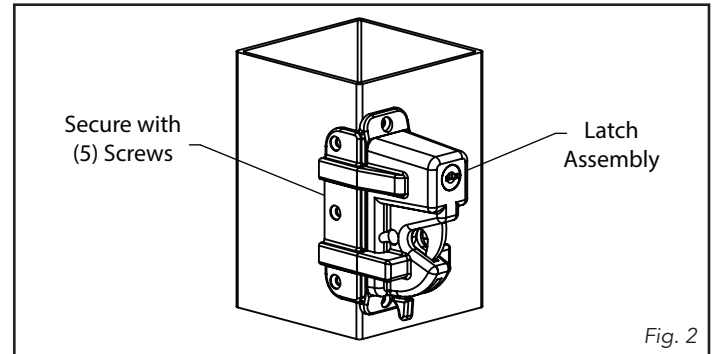

Fig. 2
2. Locate the desired mounting height for the KLX-P1 Gate Latch on the fence post (Fig. 2). Mark the center points of the the (5) mounting holes, and drill appropriate pilot holes for mounting screws. Realign latch and attach to post with the supplied flat head screws.